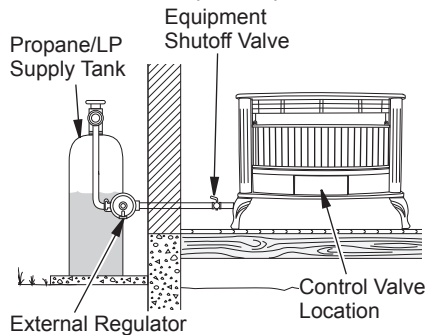

Figure 13 - Checking Gas Joints for Propane/LP Gas
3. Check all joints from gas meter to equipment shutoff valve for natural gas or propane/LP supply to equipment shutoff valve for propane/LP (see Figure 13 or 14). Apply a noncorrosive leak detection fluid to all joints. Bubbles forming show a leak.
4. Check all joints from equipment shutoff valve to control valve (see Figure 13 or 14, page 14). Apply a noncorrosive leak detection fluid to all joints. Bubbles forming show a leak.